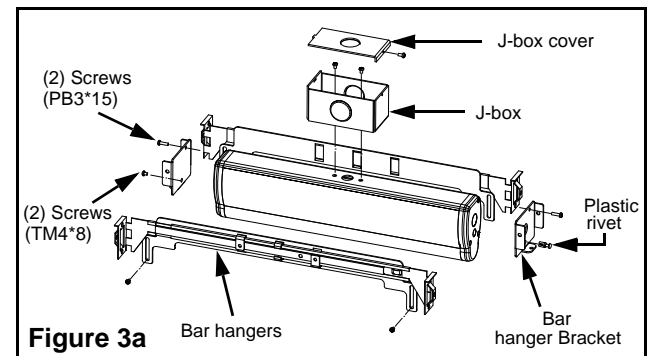

Figure 3a
5. Mount the left bar hanger bracket onto the left end cap and screw it in with screws (PB3*15 and TM4*8), (do not pass the wires through this bracket) (see figure 3a).
6. Mount the right bar hanger bracket onto the right end cap and screw it in with screw (PB3*15 and plastic rivet), (pass the wires through this bracket) (see figure 3a).
8. Mount bar hangers onto the bar hanger brackets with 4 screws (TM4*8) (see figure 3a or 3b depending on bar hanger configuration).